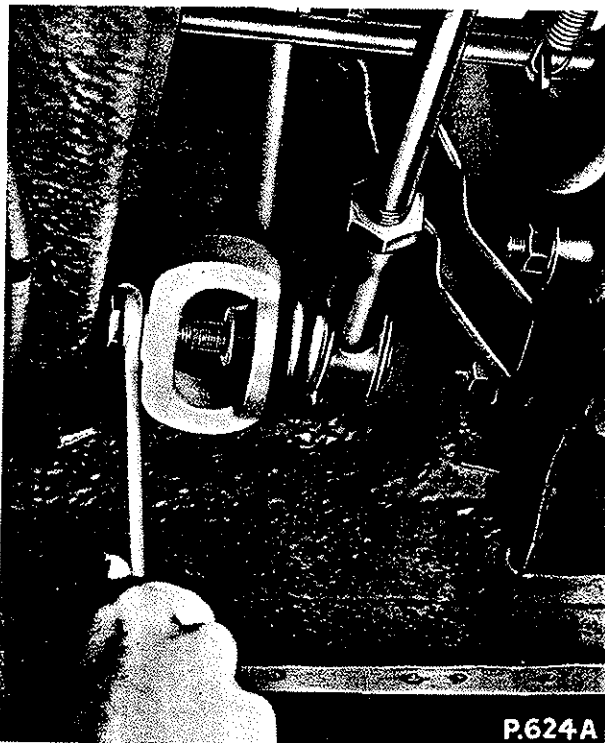

Fig. J.3. Disconnecting the side steering rod at the drop arm using the Churchill Extractor R.G.284
6. Disconnect the side steering rod at the drop arm using Churchill Extractor R.G.284 (see Fig. J.3).
2. Using the Churchill Ball Pin Extractor R.G.284, release the ball pins from their respective bosses and lift away the steering rod (see Figs. J.3 and J.10).